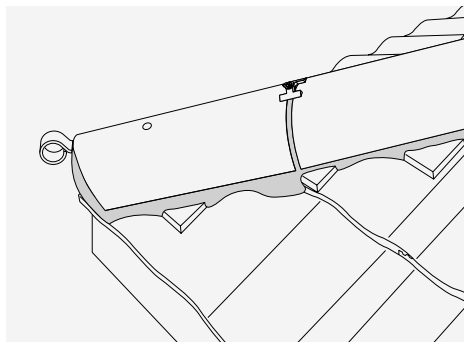

Fig. 36 – Mechanically fixed hip tiles
- 1 Cut tiles to the rake of the hip and cover with concrete third round hip tiles, edge bedded, with dentil slips bedded in the pans of the adjacent raking cut tiles (Fig. 36).
- 4 Mortar bedded hip tiles must also be mechanically fixed using the Marley mortar bedded security hip fixing kit, see Fig. 36 and pages 124-126.